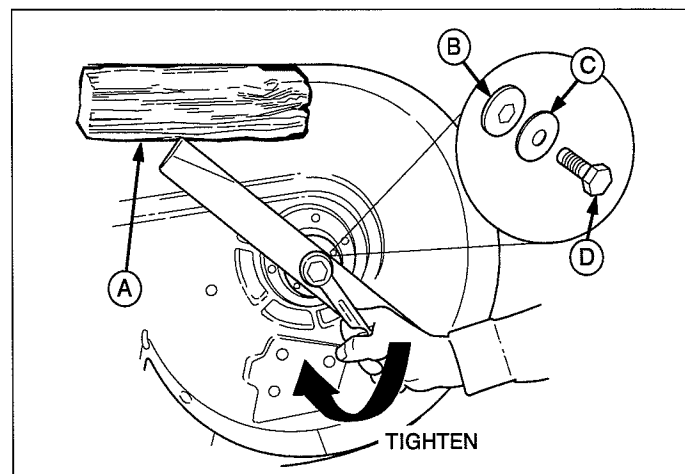

Figure 22. Installing The Blade
6. Reinstall each blade with the tabs pointing up toward deck as shown in Figure 22. Secure with a capscrew, spring washer and hex washer (be certain the hex washer is aligned with the hex shaft). Use a wooden block to prevent blade rotation and torque capscrews to 45-55 ft.lbs. (61-75 N.m.).